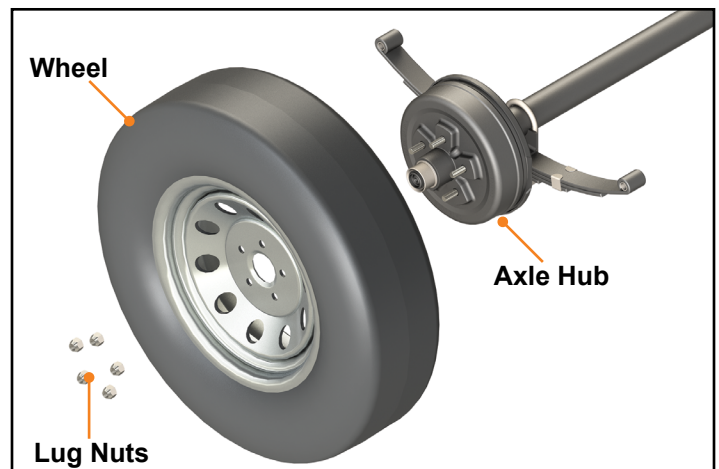

Fig.1
5. Remove all lug nuts from wheel, then remove wheel from brake hub (**Fig.1**).
7. Remove dust cover from hub by prying its edge out of the hub (**Fig.1**).